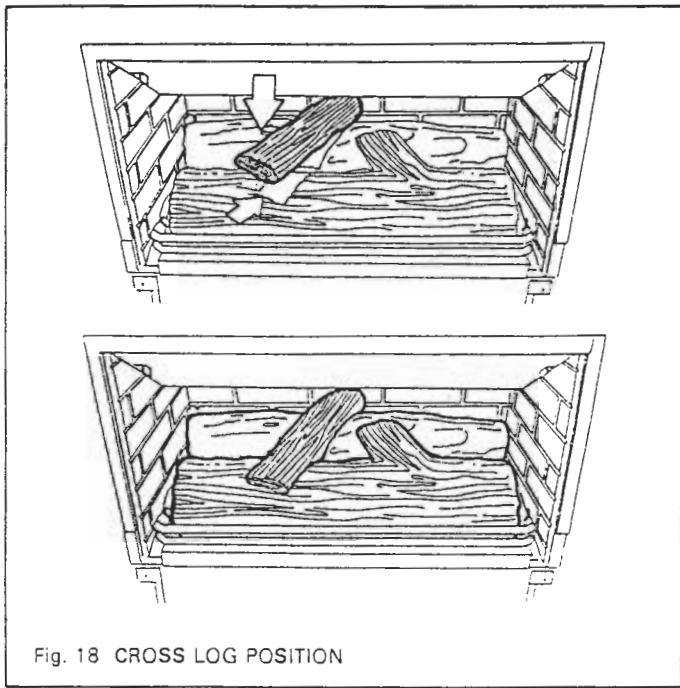

Fig. 18 CROSS LOG POSITION
6.5 Place the cross log in position (see fig. 18). The front of the log is indicated by the letter "F" embossed on its underside. Make sure that the front of the log is seated inside the hollow in the front log and is not raised in front of it.